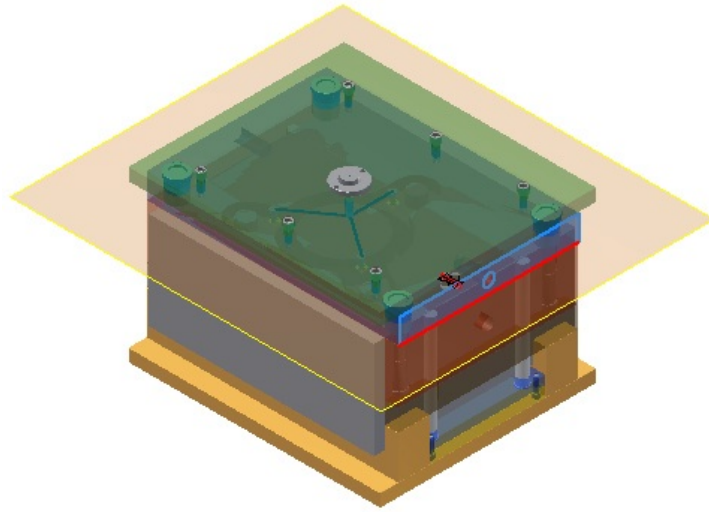

Figure 19-92 *The face to be selected*
2. Select the face shown in Figure 19-92; the preview of the cooling channel is displayed.
4. Select the right vertical edge of the plane highlighted in Figure 19-92; the distance value is displayed with dimension line on the model and you are prompted to select a horizontal reference.
5. Select the top horizontal edge of the plane highlighted in Figure 19-92; the distance value is displayed.